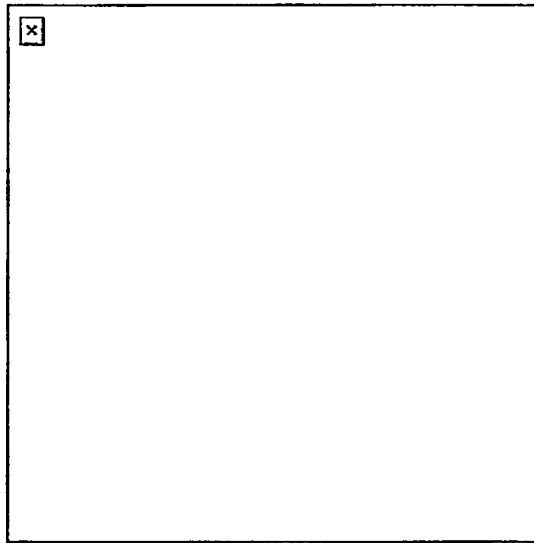

Figure 1. Firing around the left corner of a building.
- a. Fire around the left corner of the building or wall using the left-handed firing technique (Figure 1).